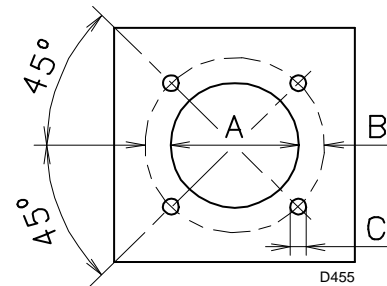

Fig. 16
Drill the combustion chamber locking plate as shown in Fig. 16 on page 25 (on page 25). The position of the threaded holes can be marked using the thermal screen supplied with the burner.
- Fit the entire burner onto the boiler hole prepared previously (Fig. 16 on page 25), and fasten with the screws supplied.